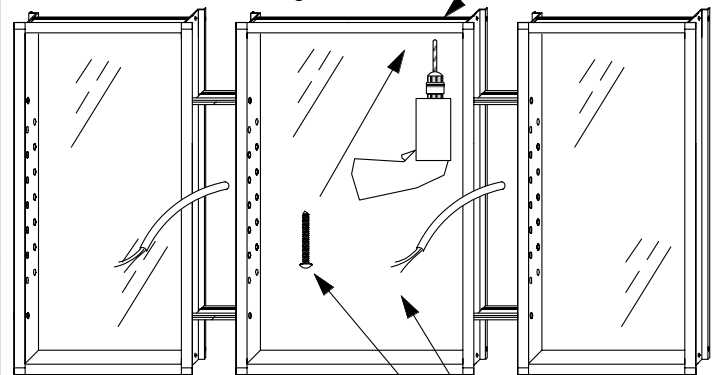

Fig. 9
3. Drill a 3/16" hole in the top of the center cabinet and install a screw and cap into the framing around the wall opening as shown in Fig. 9.